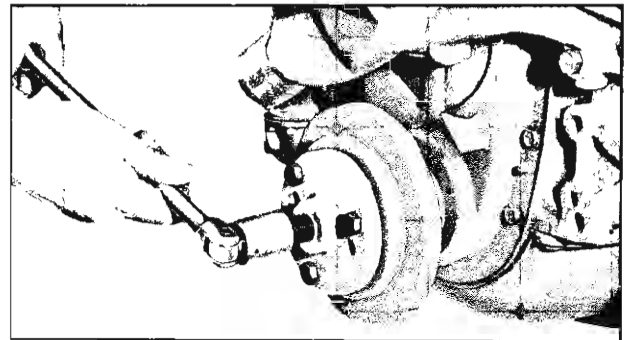

Fig. 142—Removing Balancer
7. Install tool J-6978 to harmonic balancer and turn puller screw to remove balancer from crankshaft (fig. 142).